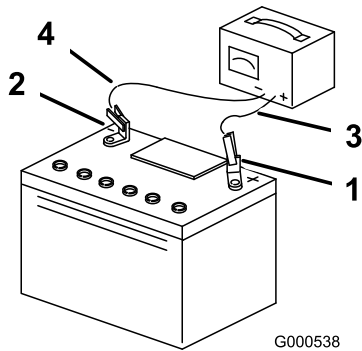

Figure 32
5. When the battery is fully charged, unplug the charger from the electrical outlet, and disconnect the charger leads from the battery posts (Figure 32).